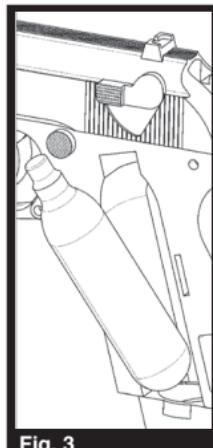

Fig. 3
- Insert the CO₂ capsule into the grip, bottom end first, with the small neck of the capsule pointing upward toward the slide (**Fig. 3**).